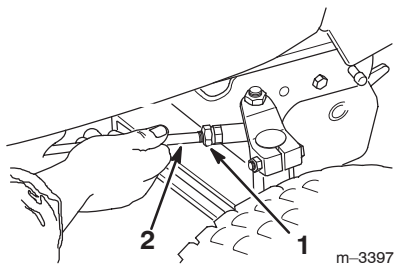

Figure 44
1. Loosen the jam nuts at the ends of the steering rods (Fig. 44).